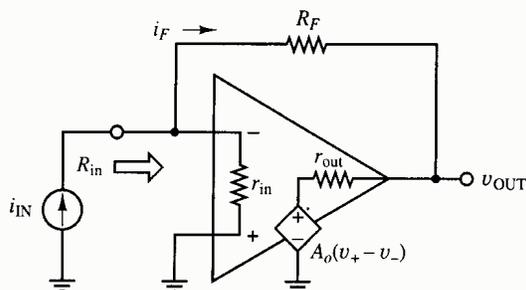

Fig. P10.70
10.70 Consider the current-to-voltage converter of Fig. P10.70. For the condition $R_F \ll r_{in}$, find the following: